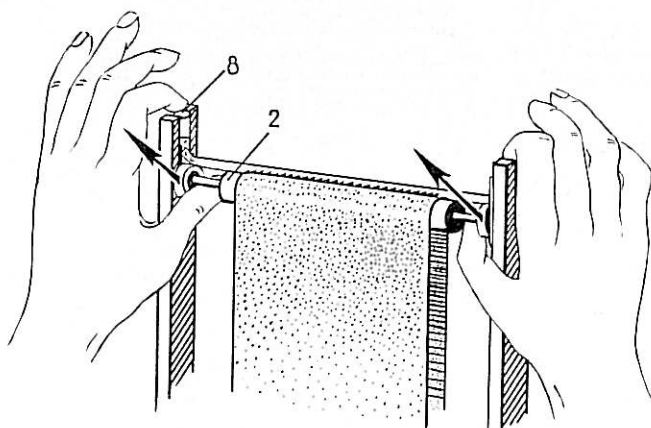

Fig. 3: Lifting out the excitation roller
First, remove the conductor hood and lift the excitation roller out of its bearings at each end simultaneously by drawing upwards at an angle (Fig. 3). At the same time exert an opposing pressure on the knurled screws (8). The excitation roller can now be withdrawn from the belt.